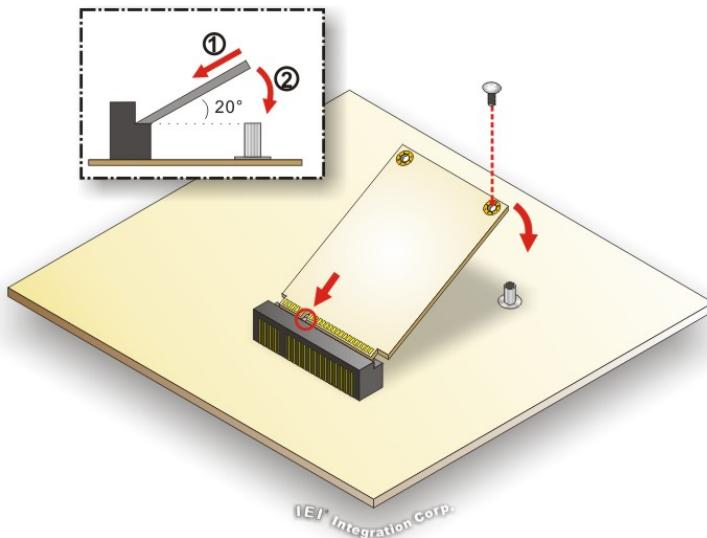

Figure 4-3: PCIe Mini Card Installation (Full-size)
Step 3: Push the other end of the PCIe Mini card down and secure the card with the previously removed retention screw (Figure 4-3).